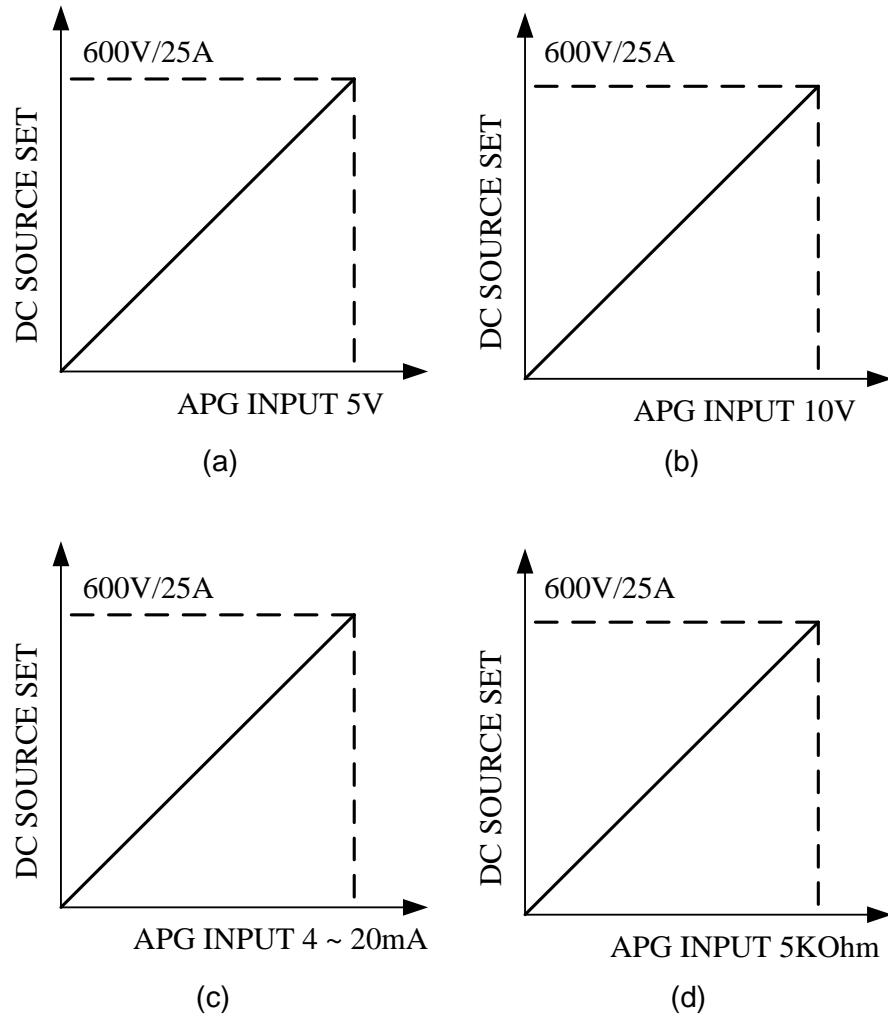

Figure 3-7
- Selecting Vref=5V means the DC Power Supply's output 0V - 600V/0A ~ 25A will map to 0-5V as shown in Figure 3-7(a).
- Selecting Vref=10V means the DC Power Supply's output 0V - 600V/0A ~ 25A will map to 0-10V as shown in Figure 3-7 (b).
- 600V/0A ~ 25A will map to 4-20mA as shown in Figure 3-7 (c).
- d. Selecting Vref=5KOhm means the DC Power Supply's output 0V - 600V/0A ~ 25A will map to 0-5KOhm as shown in Figure 3-7 (d).